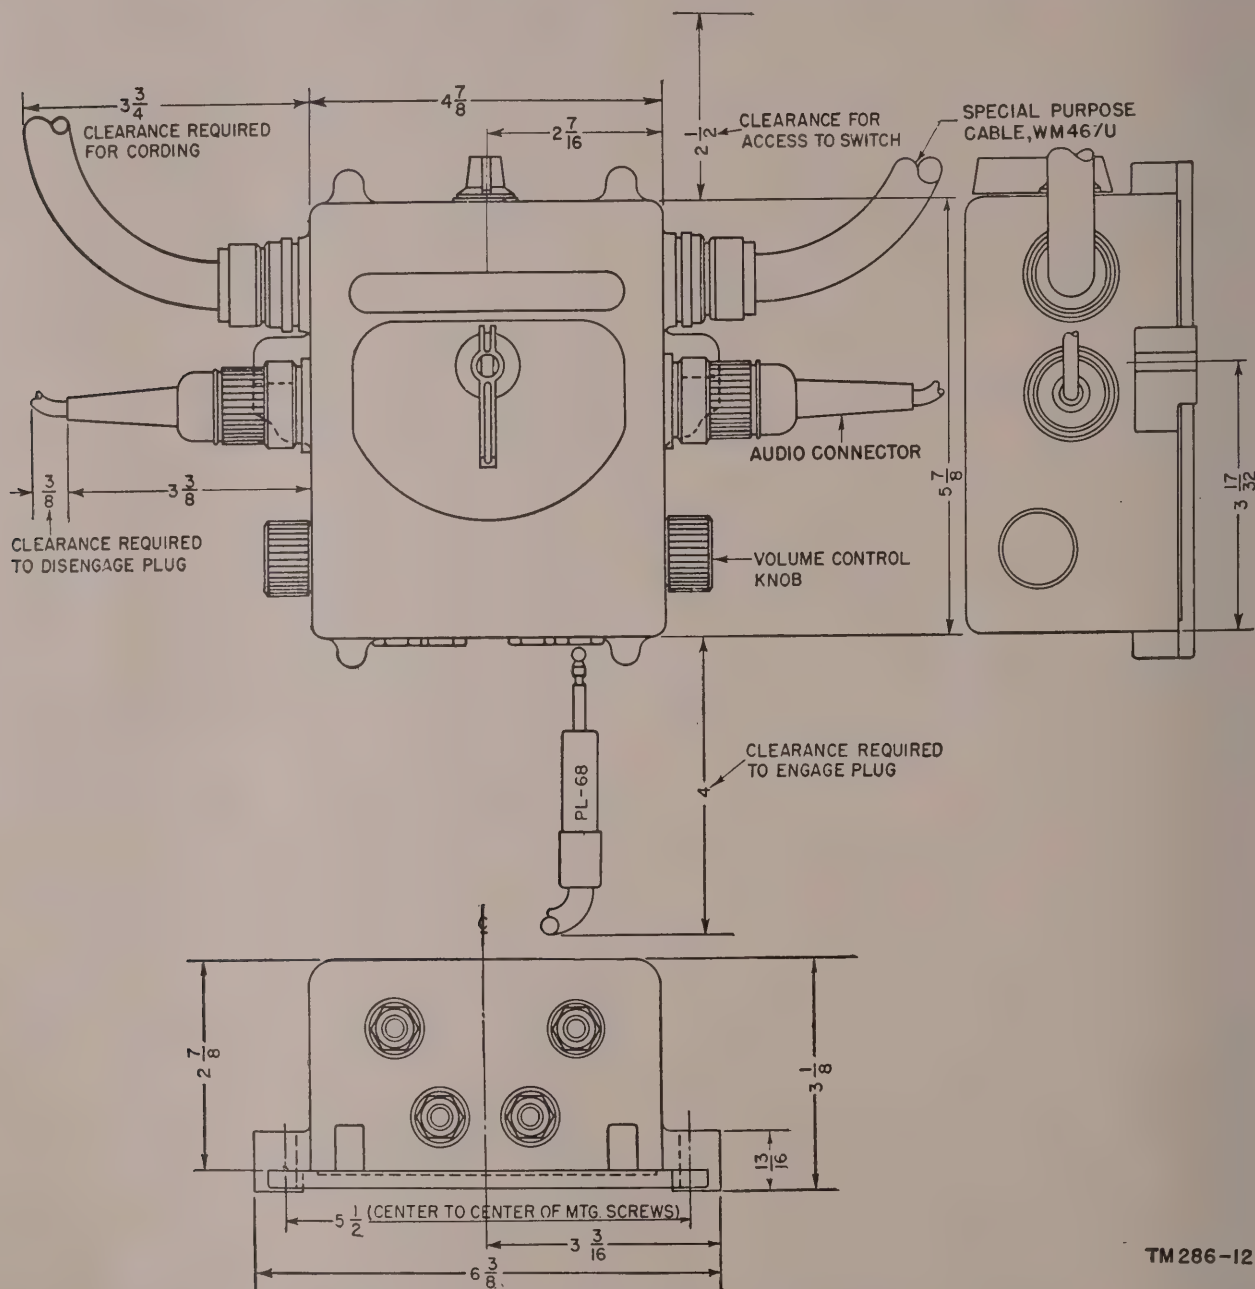

Figure 21. Control Box C-375/VRC, outline drawing.
a. Spot the location of the control boxes and drill the mounting holes. The exact location will vary from vehicle to vehicle, and must be determined from the specific instructions supplied with the installation unit. Minimum clearances which are required are indicated in figure 21. The clearances can be reduced when all of the facilities (for example, the jacks at the bottom of the box) are not required. Before mounting the units, make the connections described for each unit (b and c below).